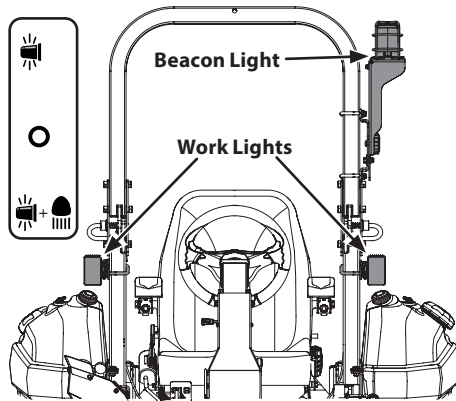

Figure 25
- Beacon Light and Work Lights ON (left position. See Figure 25.